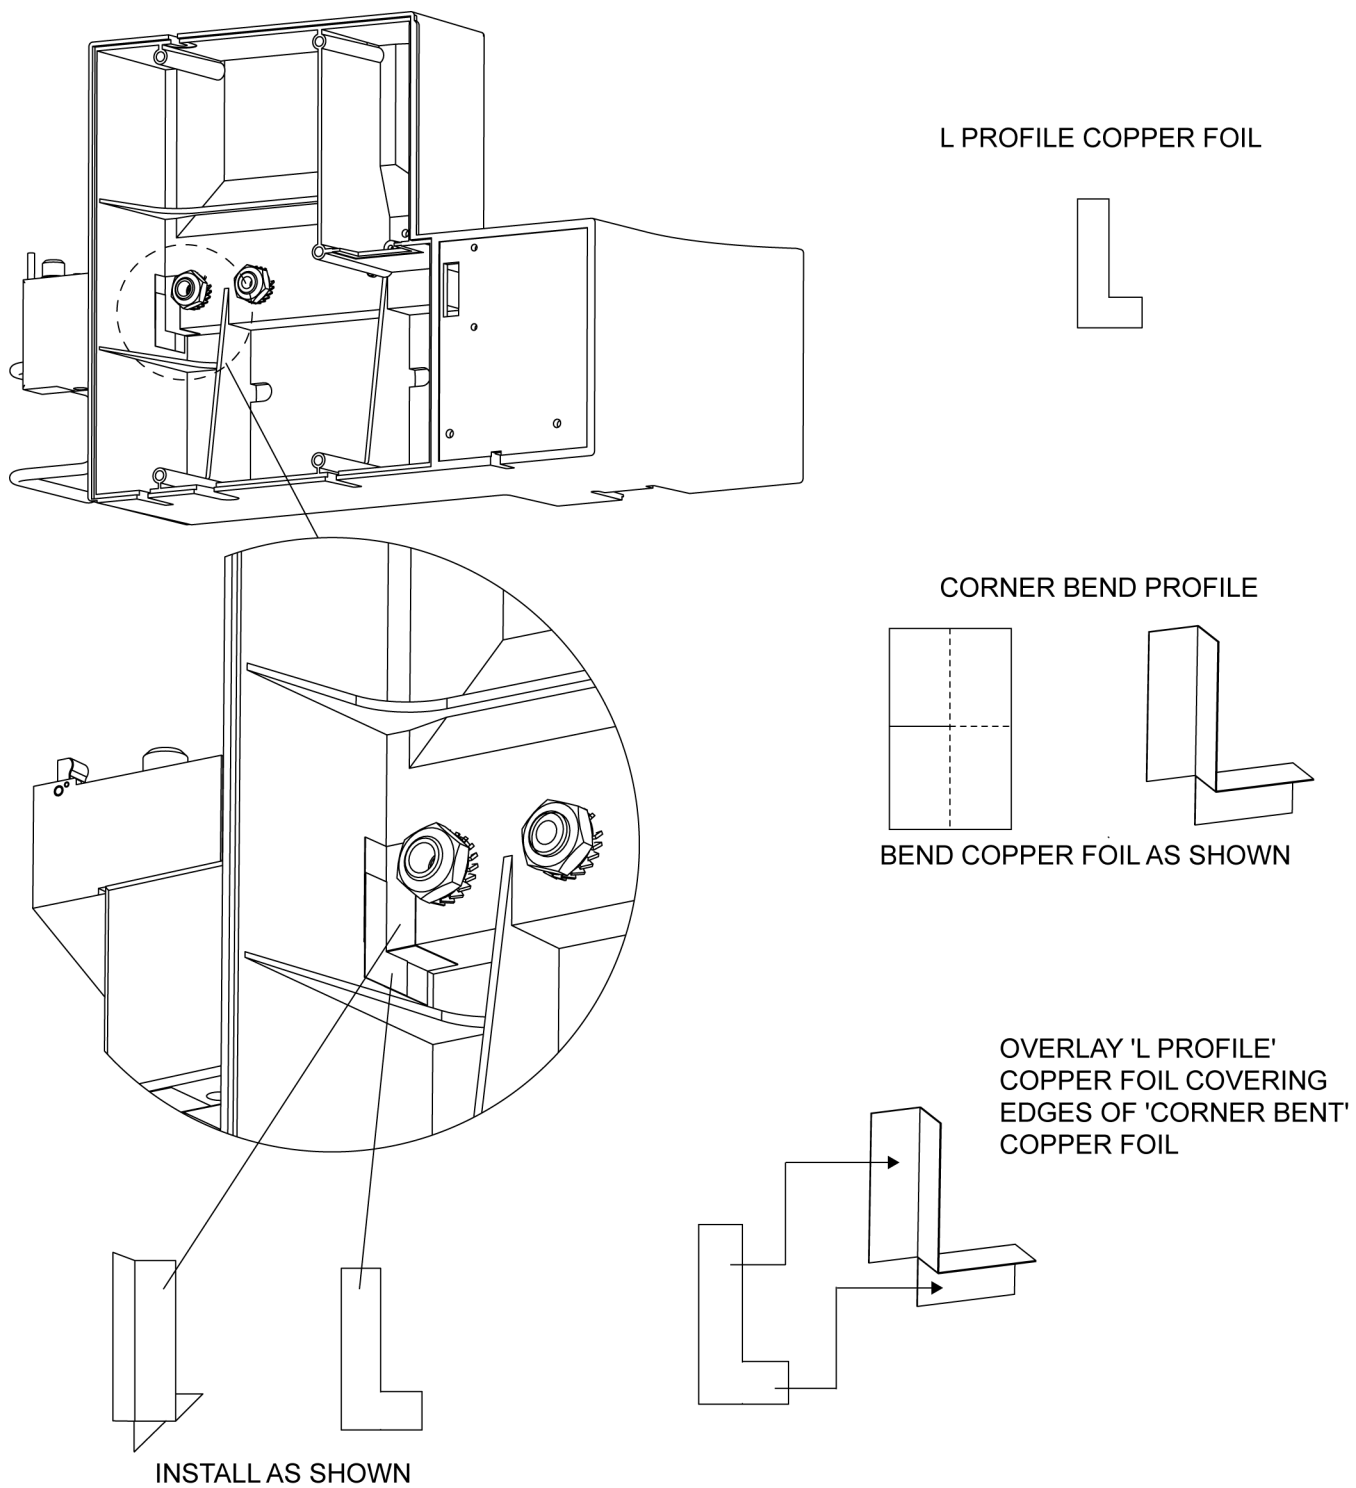

Fig. 6 Copper Foil Bending and Installation Details
Two pieces of copper foil are contained in the 3 Vapor Mount Kit. The 'L Profile' piece requires no modifications. The 'Corner Bent' copper foil requires the piece to be folded properly to ensure it's fully seated. Refer to Fig. 6 for detailed instruction.
24. Bend and install the 'Corner Bent' copper foil onto the rear of the gas box, as shown in Fig. 6. Overlay the 'L Profile' copper foil on the outside edge on the installed 'Corner Bent' copper foil piece.